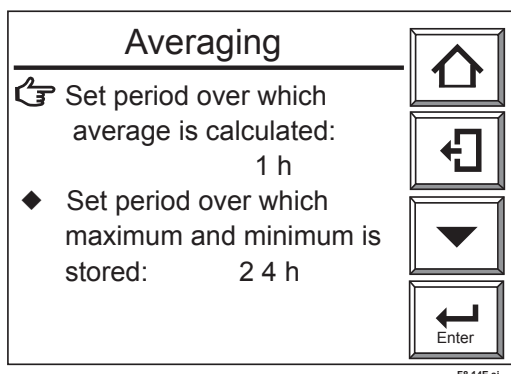

Figure 8.14 Setting Average-Value Calculation Periods and Maximum- and Minimum-Value Monitoring Periods
- (1) From the Basic panel display touch [Setup] key, and the Execution/Setup display appears.
- (2) Select “Commissioning” and the Commissioning display appears.
- (3) Select “Others” then Averaging. The display of Fig. 8.14 appears.
- (4) Select “Set period over which average is calculated” and numerical entry display appears. To set 3 hours, enter 003. Entry range is 1 to 255 hours.
- (5) Select “Set period over which maximum and minimum is stored” and numerical entry display appears. To set 48 hours, enter 048. Entry range is 1 to 255 hours.